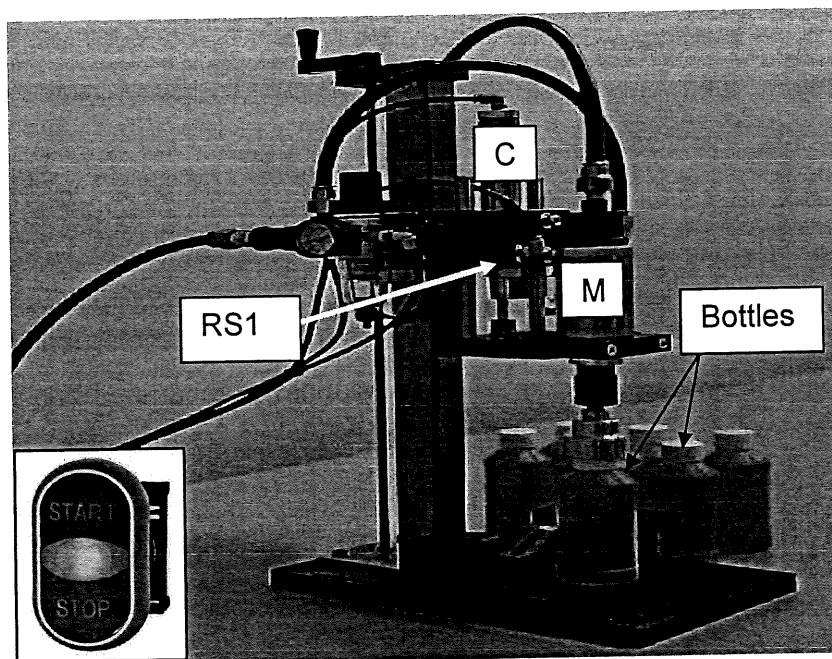

Figure 1
- b) Figure 1 show bottle cap tightening machine, when the start switch is activated Cylinder (C) will extend, pneumatic motor (M) is used to rotate the bottle cap to tighten the bottle during Cylinder (C) extends fully, confirm by reed sw1 (RS1). This pneumatic motor is connected to the shaft cylinder (C). When the Stop switch is pressed all machine operations will stop immediately.